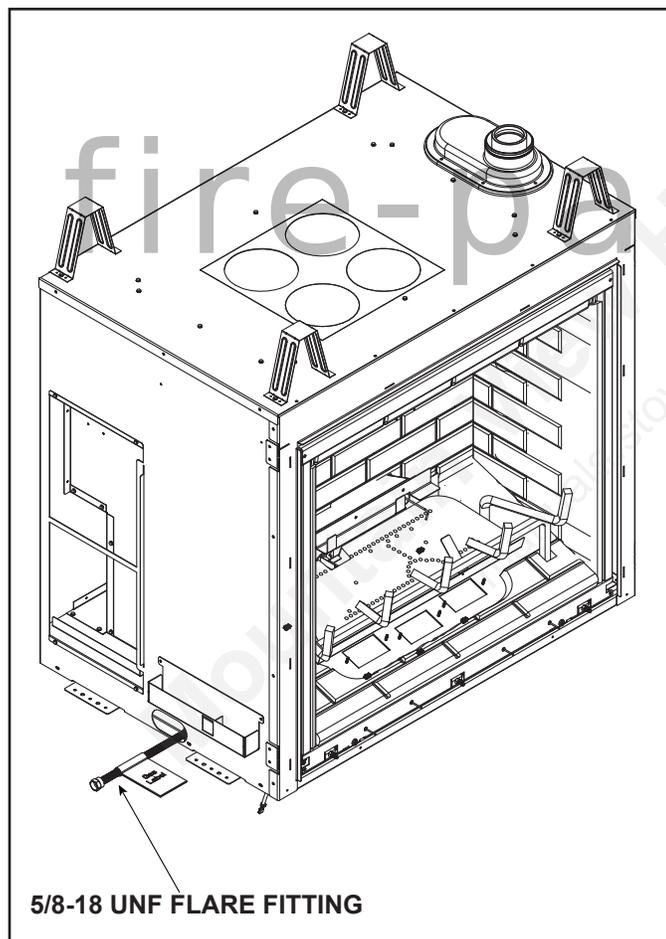

Figure 13.2 Location of Gas Line Access
- Connect appliance to gas supply outside of appliance at gas line access point as shown in Figure 13.2.